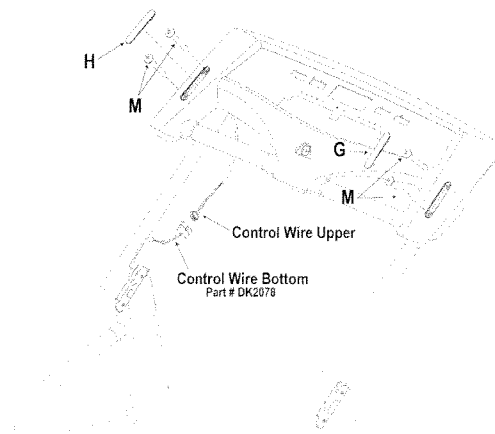

Figure 3
2. Raise the console (A) and connect the upper control wire (Figure 3) with the lower control wire (DK2078). Then, pivot the console and the uprights into position. **Note: Before continuing, confirm that no cables are pinched while raising the unit.** Next, tighten the console and the uprights with four (4) K-298 screws (M). Then, press left screw cover, and right screw cover (H and G) into place (Figure 3).